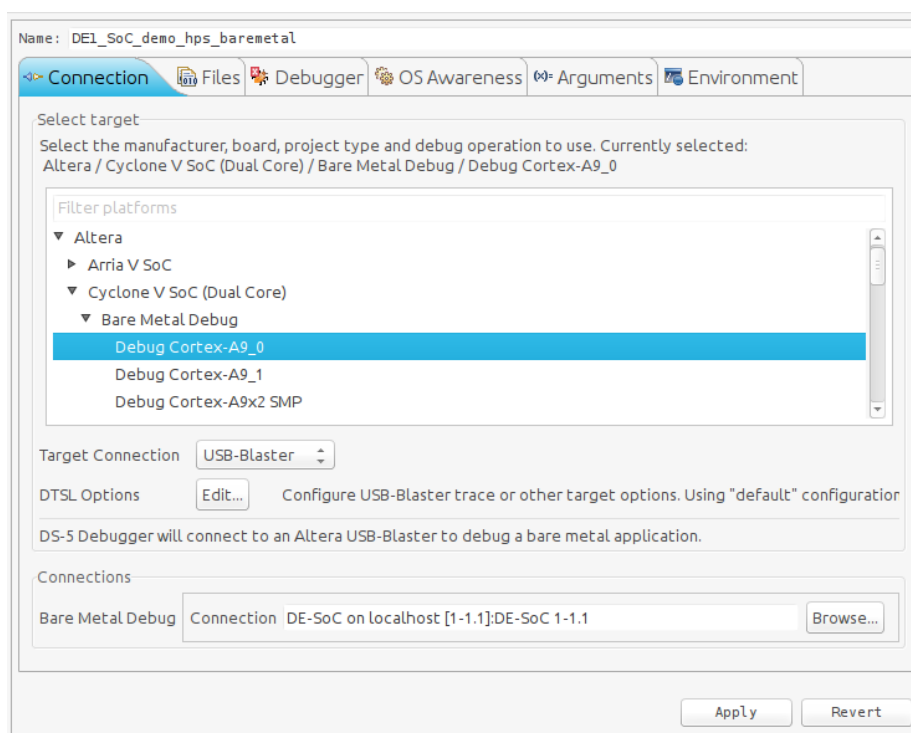

Figure 8-32. Debug Configuraton “Connection” Tab
- d. You should have something similar to Figure 8-32.